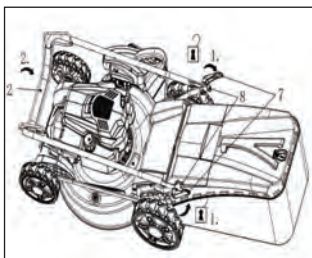

Fig. 1
2. Unfold the two clamp levers (7) to release the upper handle bar (2) (Fig. 1, step 1).
3. Unfold the upper handle bar (2) (Fig. 1, step 2) to align it with the lower handle bars (8), then hold the upper handle bar (2) in position. Ensure that the upper handle bar (2) with the brake lever (3) facing upwards.